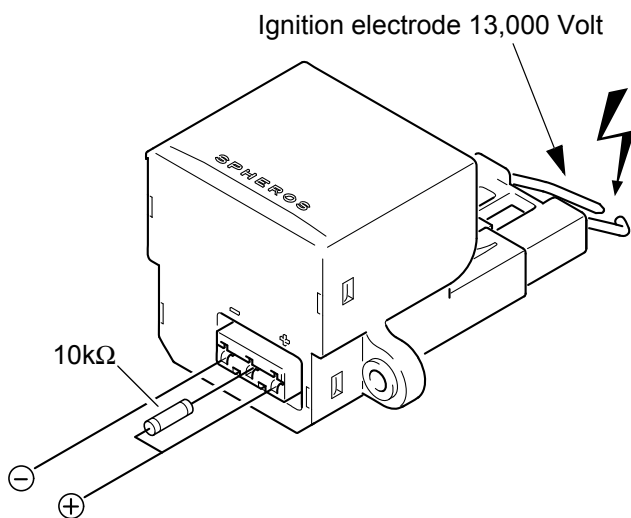

Fig. 508
- Apply 24V direct voltage according to Fig. 508 (10kOhm on SE input).